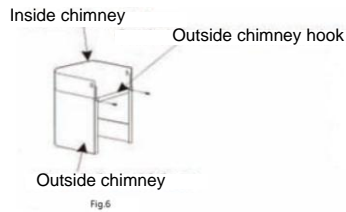

Fig.6
- Install the inside and outside chimney, and fix outside chimney on the wall, see Fig.6.